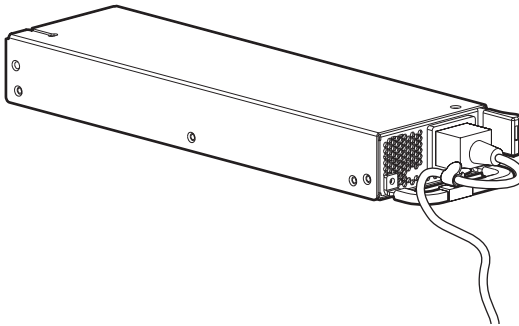

Figure 66 Place the power cord in the strain relief clip
3. Use the strain relief clip to secure the power cord (Figure 66).